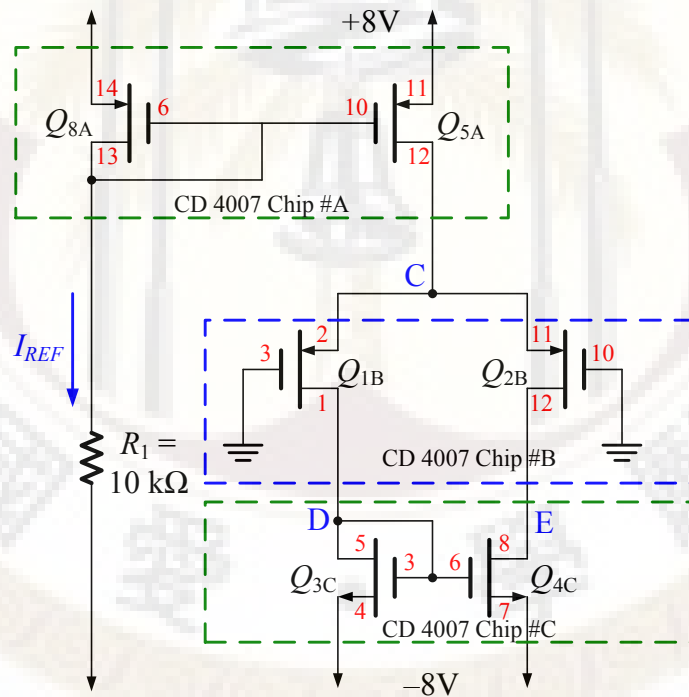

Fig. 5 DC Analysis of the active load ( $Q_3$ ,  $Q_4$ )
- a. In Fig. 5, Use multi-meter (三用電錶) to check whether ( $Q_3$ ,  $Q_4$ ) are both able to enter saturation region, that is,  $V_{GD3,4} \geq V_T (-1.8V)$ . If one of them is not so, change the chip of CD4007 #C and recheck again.